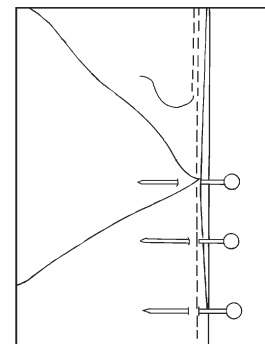

Fig. 11-3
7. Working with the sleeve side up, stitch along the reinforcement stitches. As you come to the point of the opening, keep the tucked sleeve fabric out of the way. Continue stitching. (Fig. 11-3)